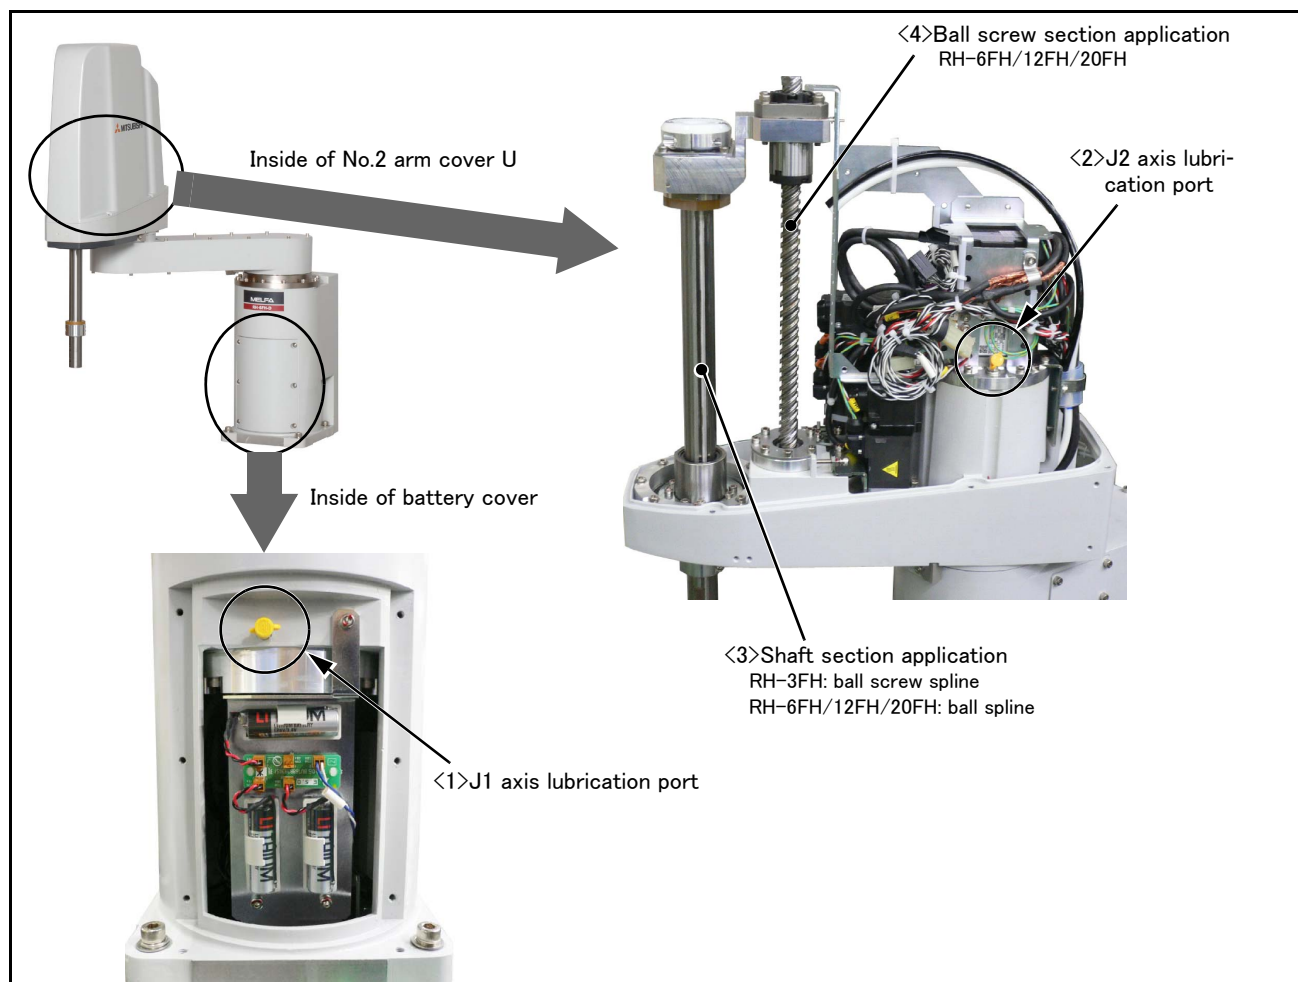

Fig.5-17 : Lubrication positions
The grease nipple position is shown in Fig. 5-17. The lubrication specifications for each place are shown in Table 5-7. Refer to the Page 68, "5.3.2 Installing/removing the cover" for the method of removing and installing the cover.
- The numbers in the Table 5-7 correspond to the supply positions in Fig. 5-17.
(2) Lubrication method to the J1, J2 axis